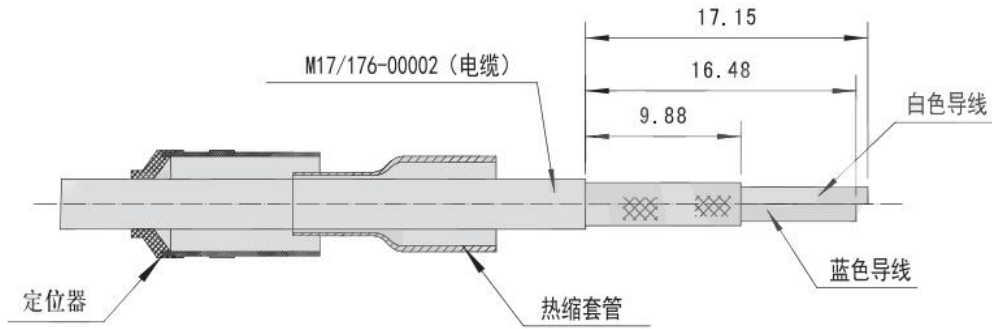

Figure 3.7
- ① As shown in Figure 3.7, the heat shrink sleeve and positioner slide onto the cable sleeve (starting from the small diameter end)
- ② Peel the cable sheath to the shown position, the end must be cut clean and at right angles to the axial surface of the cable. During cutting, the cable must not be deformed and damaged.